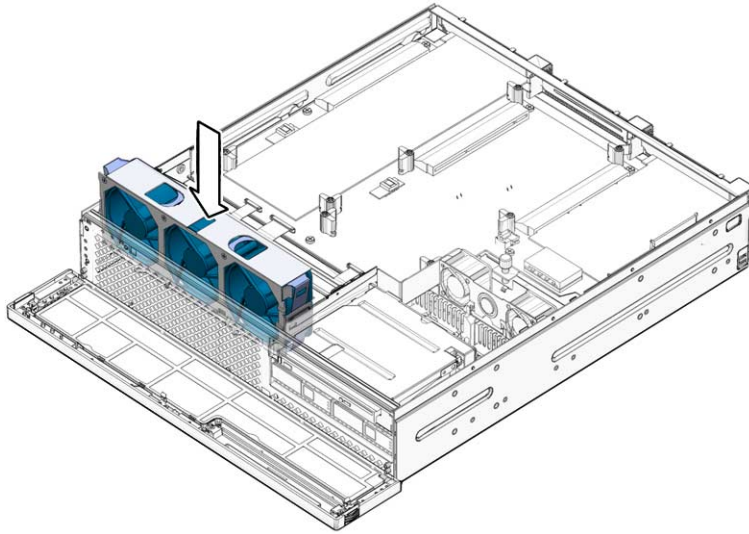

FIGURE 3-32 Lowering the Fan Assembly Into the Chassis
2. **Insert your forefinger and thumb into the holes at the top of the fan assembly, squeeze your fingers together, and lower the fan assembly into the chassis (FIGURE 3-32).**